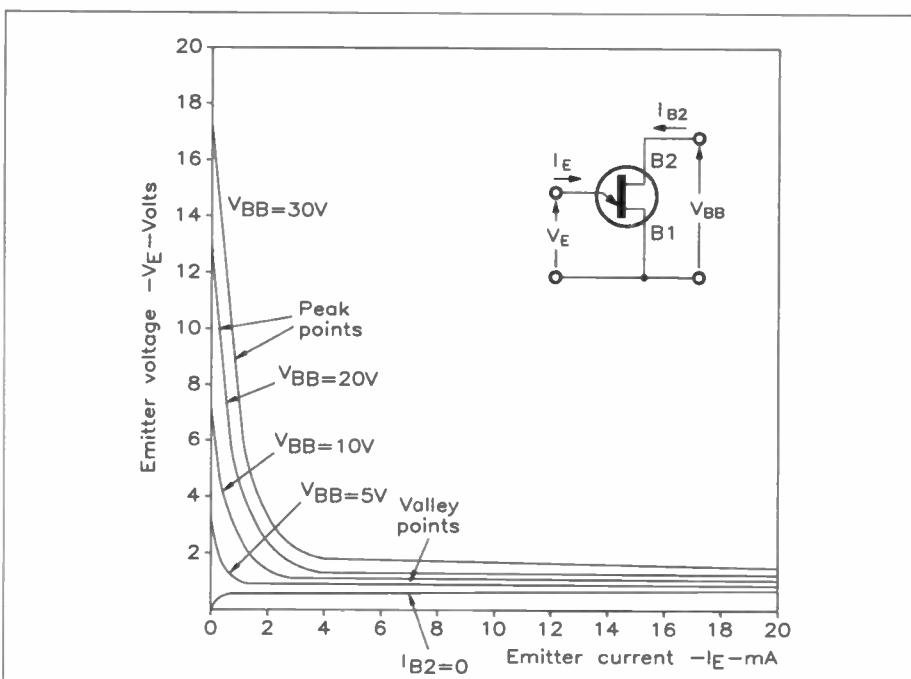

Figure 2. Characteristics and circuit symbol for a UJT.
The UJT is a three-terminal switching device that satisfies the requirements for a relaxation pulse generator that can be used for triggering thyristors, as just discussed. Its circuit symbol and characteristics are shown in Figure 2. These characteristics do agree with those shown in Figure 1b; it is just a matter of proportion.
Regarding the device itself, the terminals are known as the emitter (E), Base 1 (B1) and Base 2 (B2). Between the two bases the device behaves as a resistor, this interbase resistance, as it is called, being denoted by R_{BB} . This has a value somewhere between $4k7\Omega$ and $9k1\Omega$ at $25^\circ C$. The biasing conditions for the UJT are shown in Figure 2, from which we see that voltages are applied between B2 & B1 (V_{BB}) and between B2 & E (V_E); as a result, currents I_{B2} & I_E flow in the relevant terminals of the device. The characteristics are a plot of emitter current against emitter voltage. Several characteristics are plotted, for different values of the voltage V_{BB} , in Figure 2; where each characteristic intercepts the vertical axis, the value of V_E is known as the *peak point voltage* V_P . When the emitter voltage is less than the peak point